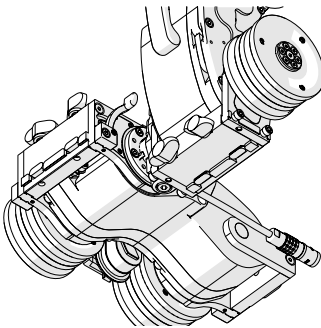

Fig. 99 - Rotate modules to 90°
2. Once the two modules are 90° perpendicular (Fig. 99), gently pull the two modules apart (Fig. 100).